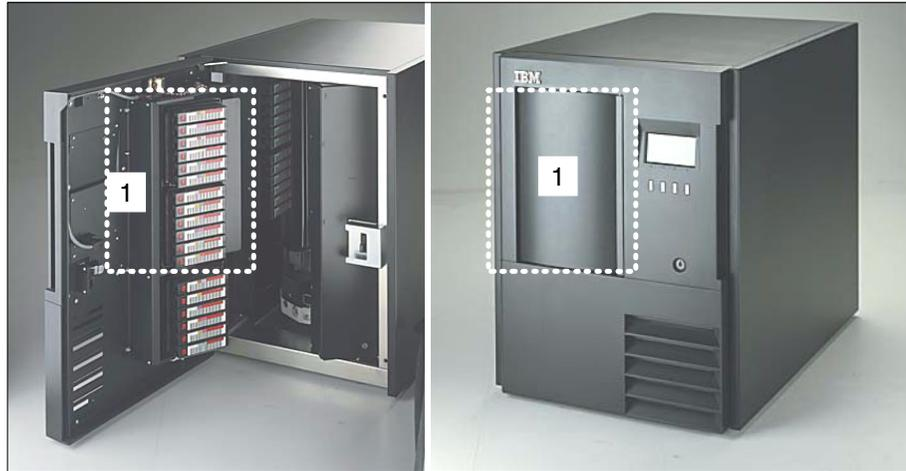

Figure 7-4 IBM 3583 front view, open door
Figure 7-4 on page 150 shows the actual picture of an IBM 3583 with a view of the front door opened showing I/O station column 1. This diagram also shows a good view of the 12-slot I/O station option.
**Note:** The only components accessible in a non-disruptive mode are the magazines located in the I/O station door (label 1 in Figure 7-4 on page 150).